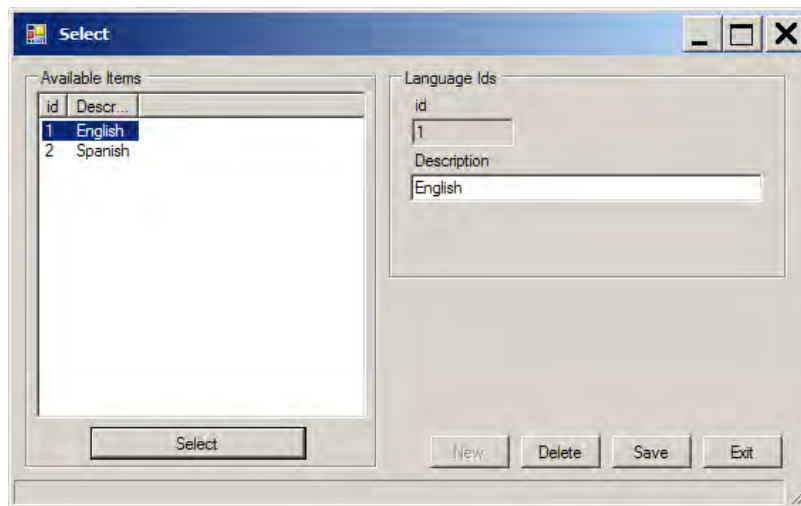

Figure 44. Select Default Language Dialog.
3. Click the button **>>** to the right of the **Default Language** field on the *Employee Details* dialog. This opens the *Language IDs Selection* dialog window (see Figure 44).